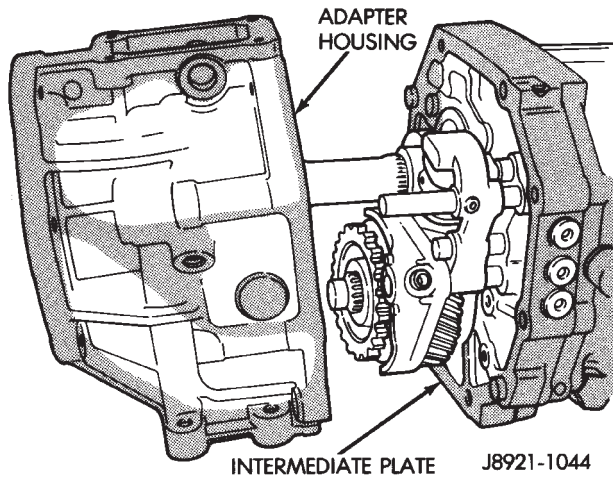

Fig. 27 Remove Adapter/Extension Housing—Typical
- (17) Remove adapter/extension housing (Fig. 27).
- (18) On 4x2 transmissions;